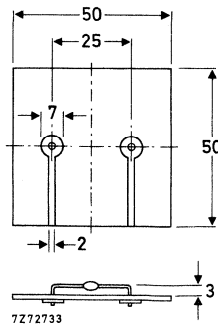

Fig. 2 Device mounted on a printed-circuit board.
2. Thermal resistance from junction to ambient; device mounted on an 1,5 mm thick epoxy-glass printed circuit board; Cu-thickness $> 40\text{ }\mu\text{m}$; Fig. 2 $R_{th\ j-a} =$ 100 K/W (see "Thermal Model")